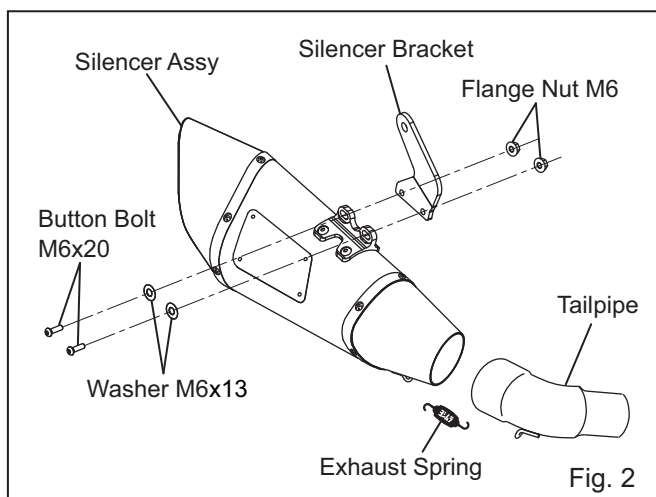

Fig. 2
- 4) Attach Silencer Bracket on to Silencer Assy with 2 of each Button Bolt M6x20, Washer M6x13 and Flange Nut M6 (See Fig. 2). Tighten the bolts by hand only at this stage.
- 5) Install Silencer Assy to Tailpipe and fix them with Exhaust Spring (See Fig. 2).